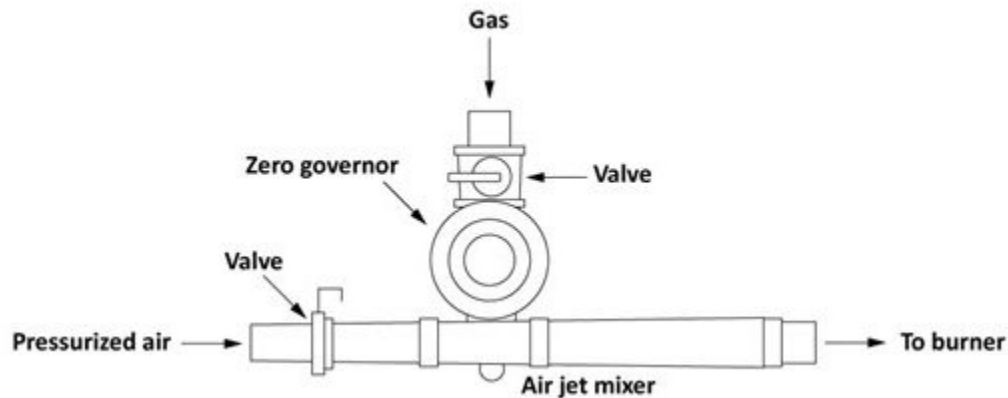

Figure 36. Aspirator (venturi) mixer
The aspirator (venturi) type of pre-mix burner (Figure 36) uses high velocity air travelling through a venturi to entrain and mix with the required gas supply.
- Figure 36. “Aspirator \(venturi\) mixer” by Camosun College is licensed under a CC BY 4.0 licence.